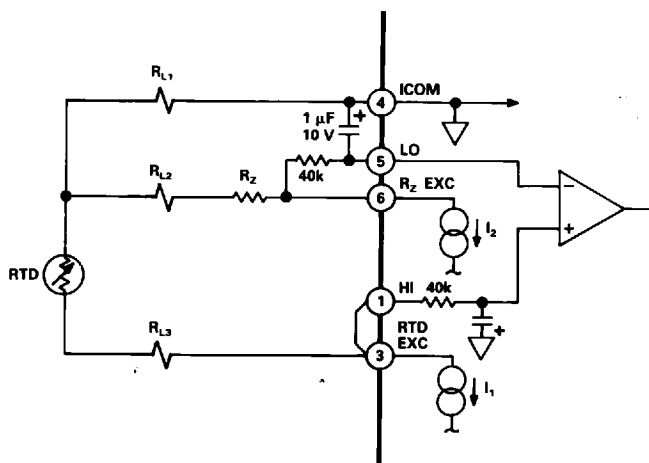

Figure 2. 3-Wire Compensation
**3-Wire Compensation:** The 1B41 accomplishes 3-wire compensation by using matched current sources on both RTD EXC (Pin 3) and RZ EXC (Pin 6). Figure 2 shows lead wires with resistances of RL1, RL2 and RL3. The following equation describes the error voltage caused by lead resistance and the current source mismatch.